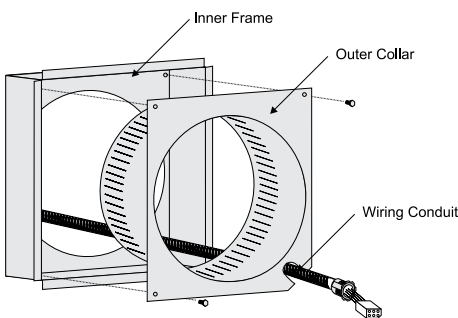

Figure 5. Assemble the mounting frame, collar, and conduit.
3. Screw the collar in place with three screws as shown in figure 5.